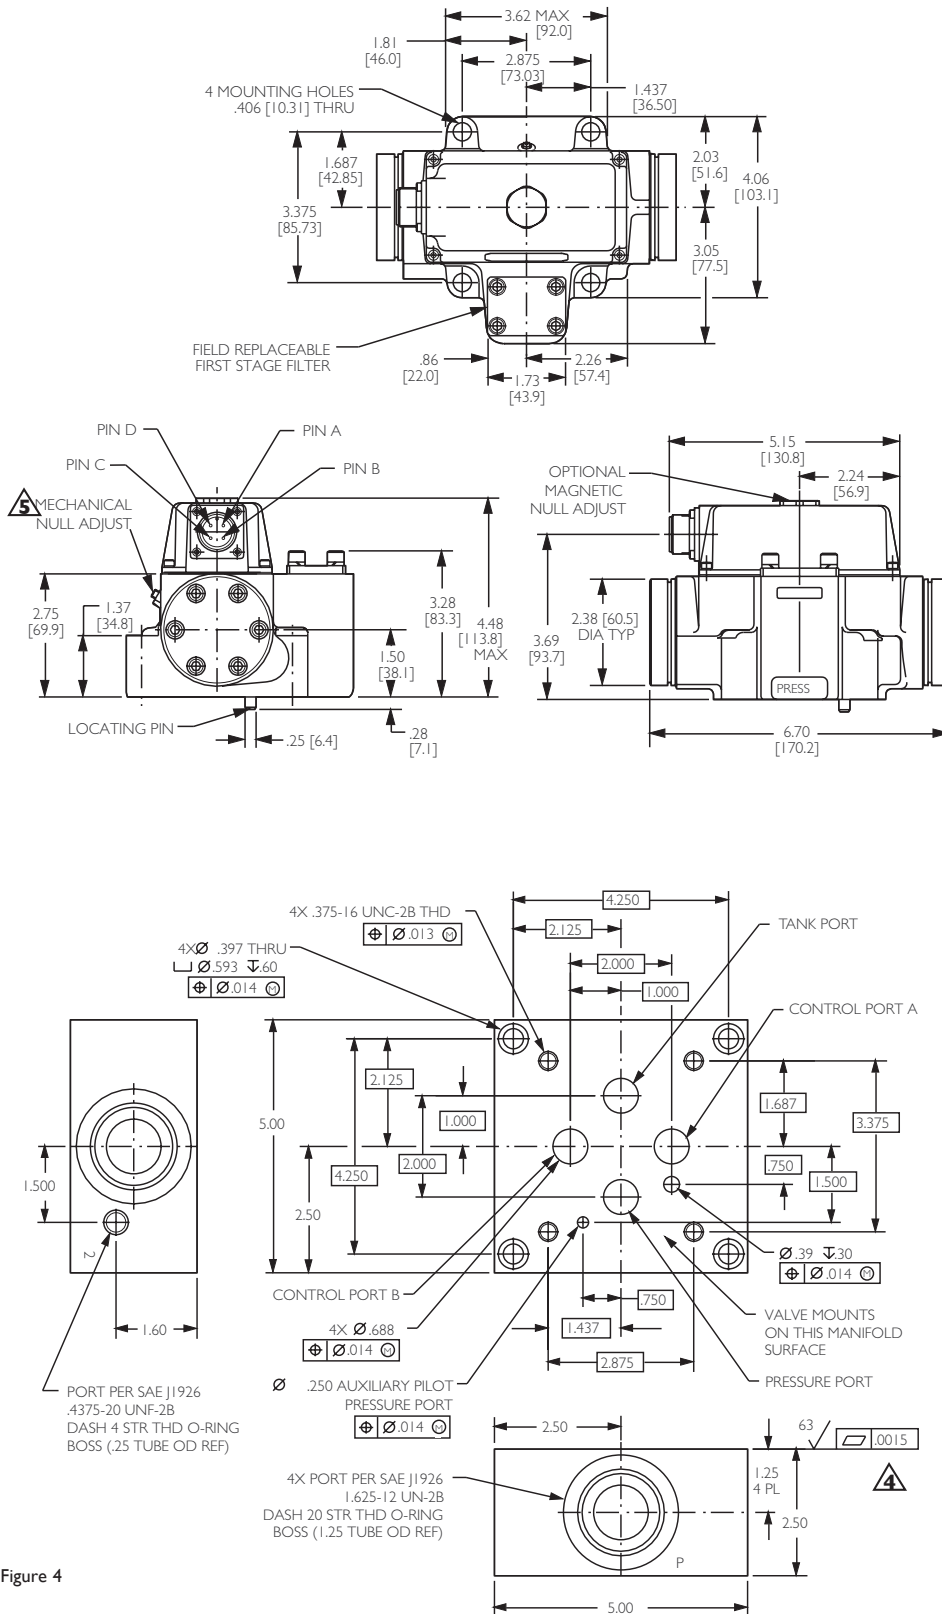

Figure 4
The Moog (G)72K series industrial servovalve may be mounted in any position, provided the servovalve pressure, control, and tank ports match respective manifold ports. The mounting pattern and port location of the servovalve is shown on Figure 4. The servovalve should be mounted with  $\frac{3}{8}$ -16 x 2.00 inch long, socket head cap screws. Apply a light film of oil to the screw threads and torque to 175 inch-pounds. Wire mating connector for desired coil configuration and polarity. Thread connector to valve.